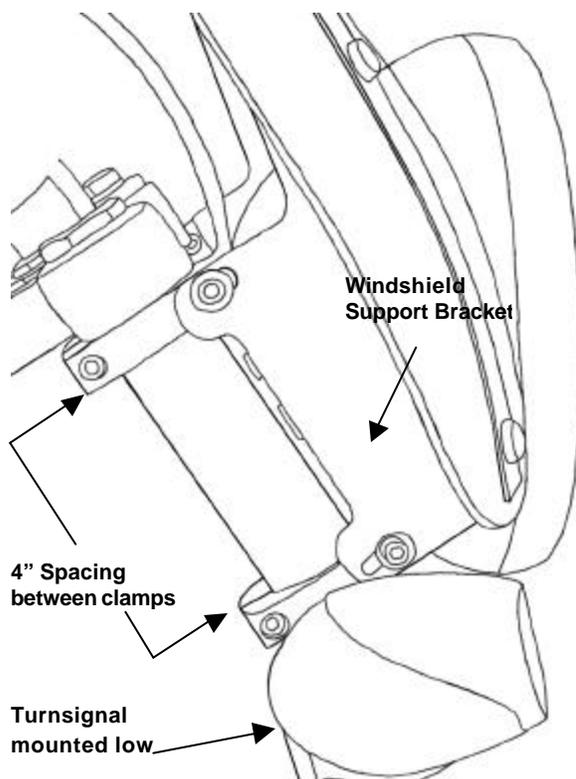

Figure 1
4. Loosely mount left and right lower clamps with a distance between the lower and upper clamps of 4". **See Figure 1.**